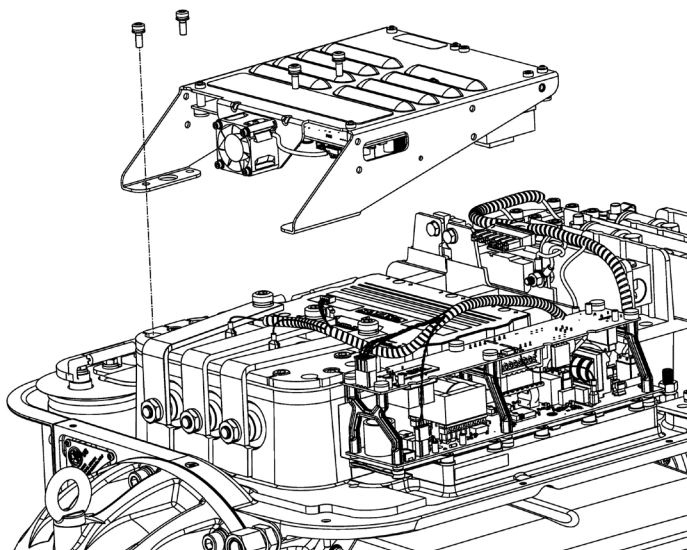

Figure 4 – Soft Start Mounting Fasteners
6. Remove the fasteners that secure the Soft Start Mounting Bracket to the compressor. Refer to Figure 4 (Soft Start Mounting Fasteners).